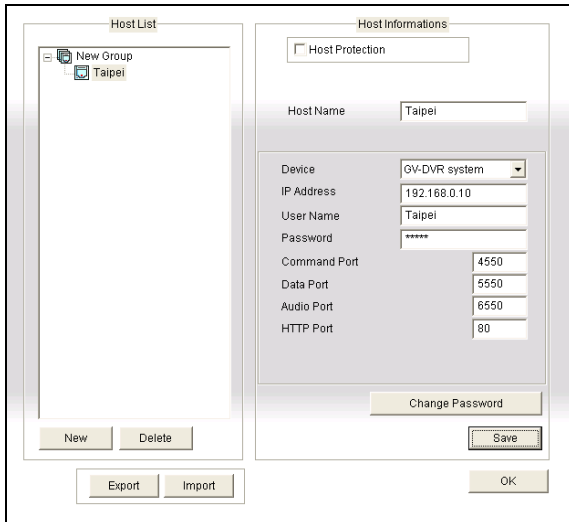

Figure 8-33
4. To set up each camera channel of the Multiple Hosts, click the **Edit** tab one at a time. Alternatively, you can click and drag the created camera channel from the Host List (Figure 8-33) to each **Edit** tab. Note that all created camera channels must be added to each **Edit** tab in the order of 1 to 32.